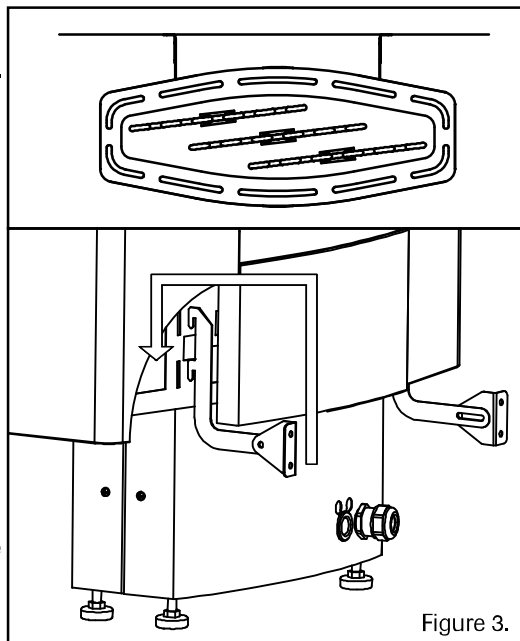

Figure 3.
- The heater must be attached to the wall or to the benches using two support irons, as illustrated in Fig. 3.